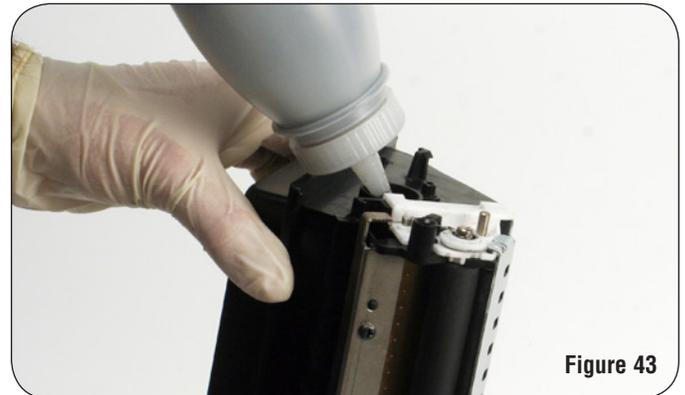

Figure 43
8. Install the appropriate amount of toner into the cartridge and install the hopper cap, as shown in Figure 43. It is best to install the toner into the toner hopper before installing the drive side gears to prevent from losing any of the gears.